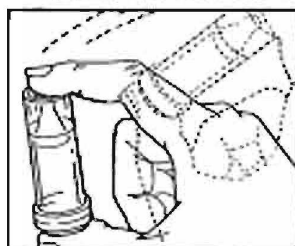
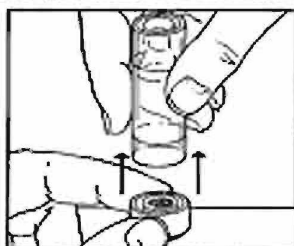
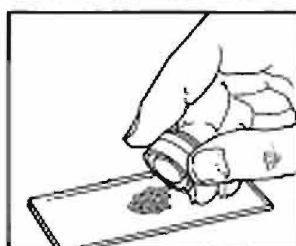

Figure 25. Mixing Stain and Sediment.
Figure 26. Removing Cap and Stained Sediment.
Figure 27. Depositing Sediment on Standard Micro Slide.
- f. **FOR DEPOSITING SEDIMENT ON STANDARD MICRO SLIDES.** Decant supernatant and stain sediment as described in Steps (a) and (b) above. Recap and shake by placing thumb on cap and index finger on bottom of the tube (Figure 25). ALWAYS END WITH THE TUBE HELD UPSIDE DOWN so that the sediment is collected in the cap. Remove tube from cap (Figure 26), and tap the cap gently against the slide until sufficient material has been deposited (Figure 27). Enough material should remain in the cap to allow the preparation of several microscope slides in this manner, if desired. The use of a cover slip is not essential when specimens are examined on standard micro slides.